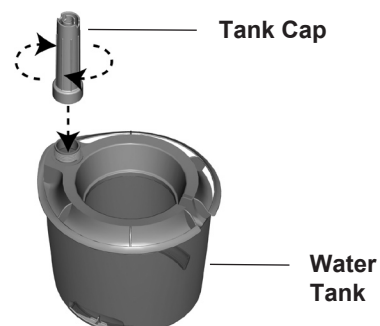

Figure 4
7. Unscrew the Tank Cap by twisting it counterclockwise and fill the Water Tank with cool water. NEVER USE HOT WATER. See Figure 4.